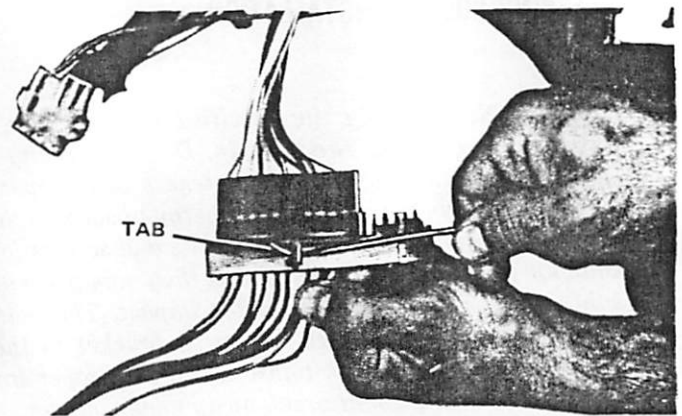

Fig. 2J-7 Turn Signal Switch Removal/Installation
(14) Wrap tape around turn signal switch harness connector to prevent snagging during removal.
(15) Remove turn signal switch attaching screws and remove switch. Pull switch and harness straight up and out of housing (fig. 2J-8).